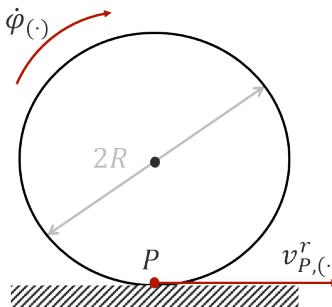

Figure 6.3. Pure rolling kinematic constraint
- *Pure rolling:* the wheels never slips or skids (Figure 6.3). Recalling that R is the radius of the wheels (identical) and letting $\dot{\varphi}_l$, $\dot{\varphi}_r$ be the angular velocities of the left and right wheels respectively, the velocity of the ground contact point P in the robot frame is given by: